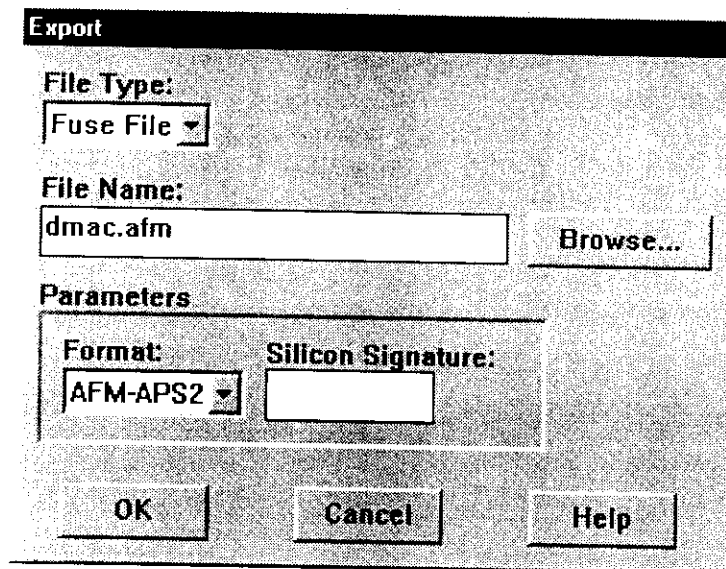

Figure 16. The Export Dialog Box
2. In the Designer flow chart, click Fuse .	The Export dialog box will open as shown in Figure 16.